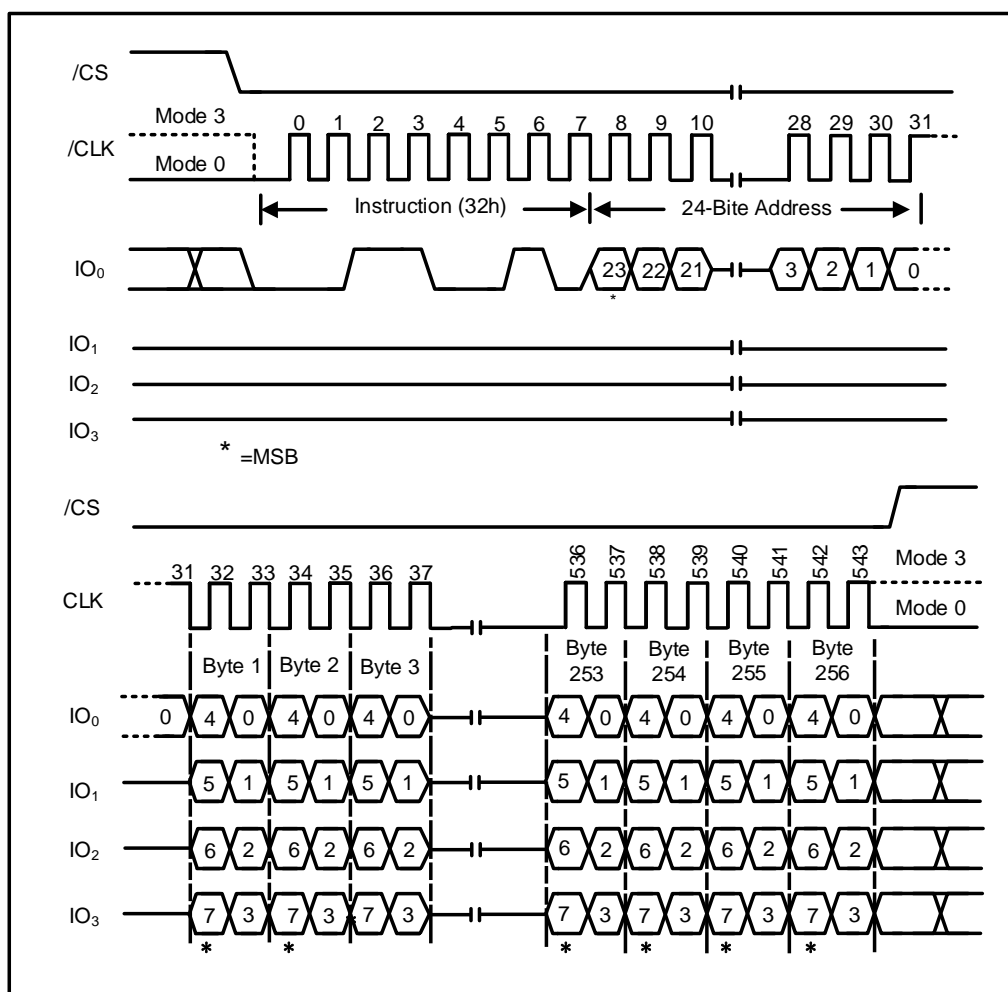

Figure 23. Quad Input Page Program Instruction (SPI Mode only)
To use Quad Input Page Program the Quad Enable (QE) bit in Status Register-2 must be set to 1. A Write Enable instruction must be executed before the device will accept the Quad Input Page Program instruction (Status Register-1, WEL=1). The instruction is initiated by driving the /CS pin low then shifting the instruction code “32h” followed by a 24-bit address (A23-A0) and at least one data byte, into the IO pins. The /CS pin must be held low for the entire length of the instruction while data is being sent to the device. All other functions of Quad Input Page Program are identical to standard Page Program. The Quad Input Page Program instruction sequence is shown in Figure 23.